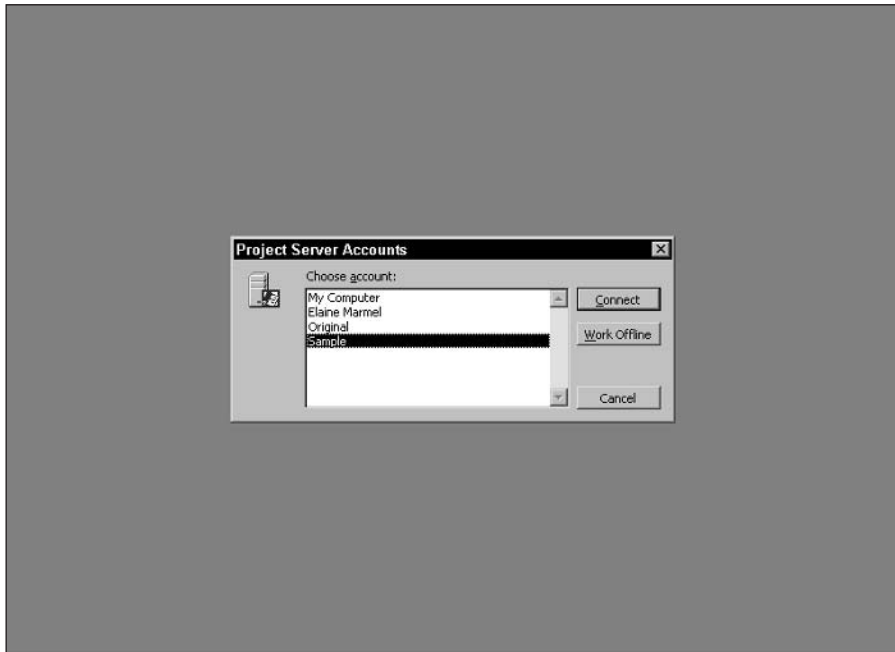

Figure 20-3: You see this box if you choose to manually control the connection state.
- At the bottom of the box, choose whether you want to log on automatically or manually control the connection state. If you choose the Automatically detect connection state option button, you don't see the dialog box that is shown in Figure 20-3, in which you choose the account that you want to use to log on. Instead, Project simply attempts to detect the Project Server.
For example, suppose that you use Project from a notebook computer while traveling. During your time away from the office, you want to keep track of the time that you spend working. If you manually control the connection state, which was discussed in the previous section, click the My Computer icon in the Project Server Accounts dialog box (shown previously in Figure 20-3) and then click the Work Offline button. If you chose to automatically detect the connection state, you won't connect to Project Server when you start Project if your computer isn't connected to the network.